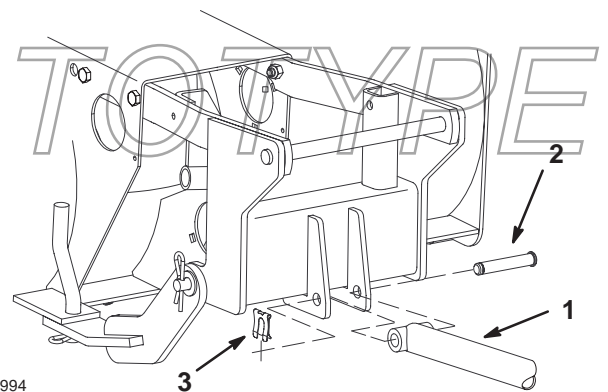

Figure 10
1. Install the lift tube to the snowthrower frame with a clevis pin and a pin clip (Fig. 10).